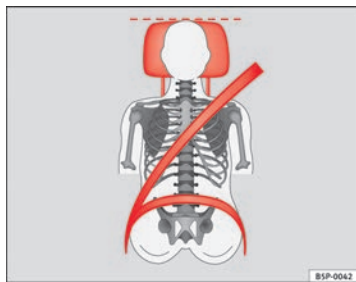
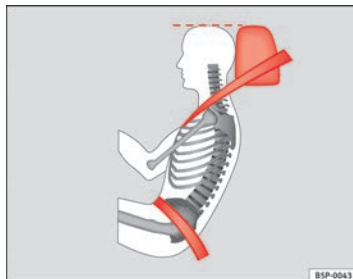

Fig. 87 Front view: head restraints and seat belts correctly adjusted
Fig. 88 Side view: head restraints and seat belts correctly adjusted
- Adjust the head restraint so that the top is at the same level as the top of your head or as close as possible to the same level as the top of your head, at least at eye level ⇒ fig. 87 and ⇒ fig. 88.